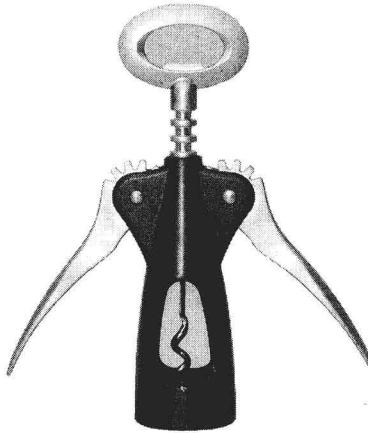

Fig. 1-8
4.6 Fig. 1-8 shows a corkscrew. Observe and use the corkscrew practically, describe its work theory and point out what links it contains.